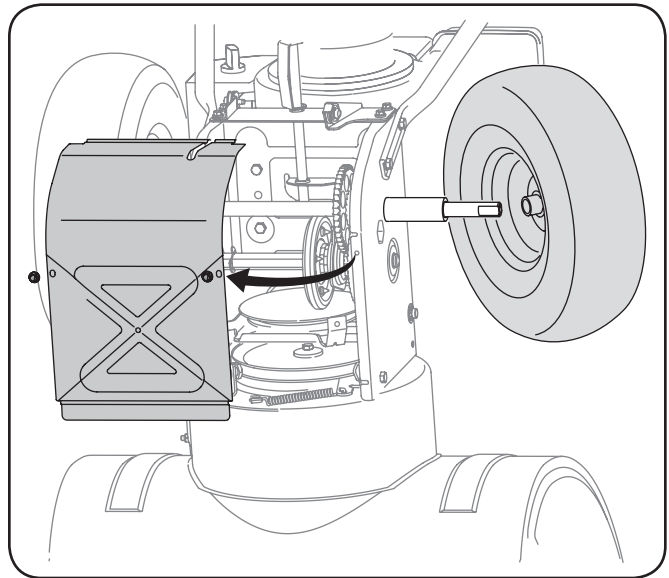

Figure 8-8
4. Remove the frame cover from the underside of the snow thrower by removing four self-tapping screws which secure it. Remove the right-hand wheel by removing the screw and bell washer which secure it to the axle. See Fig. 8-8.